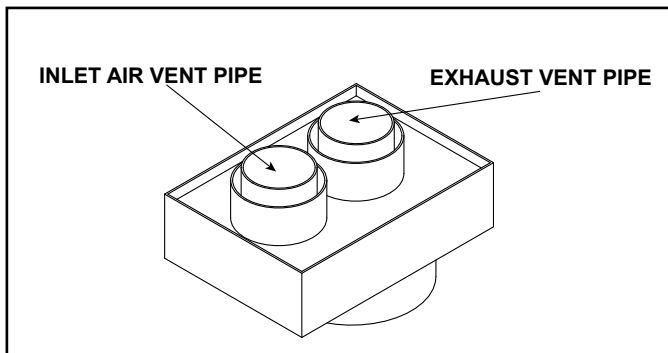

Figure 4.25 Coaxial/Colinear Appliance Connector
The coaxial to colinear adapter (DV-46DVA-GCL) is approved for installations into solid fuel masonry or factory built fireplaces that have been installed in accordance with the National, Provincial, State and local building codes. The coaxial to colinear vent components are shown in Section 12.A. The DV-46DVA-GCL must be recessed into existing masonry fireplace. See Table 1 and Figure 4.25.
- Remove top seal cap and insulation if equipped. See Section 6, "Appliance Preparation." Attach the DVP-2SL to the 8 inch starting collar. Follow installation instructions included with DVP-2SL kit. Attach the DV-46DVA-GCL adapter to the appliance starting collar with 3-1/2 in. self-tapping screws. See Figure 4.25.
- Remove the rear seal cap and insulation if equipped. Connect the DVP-2SL adapter to the vertically positioned elbow. Follow installation instructions included with DVP-2SL kit. Secure DV-46DVA-GCL adapter to DVP-2SL with 3-1/2 in. self-tapping screws. See Figure 4.25.